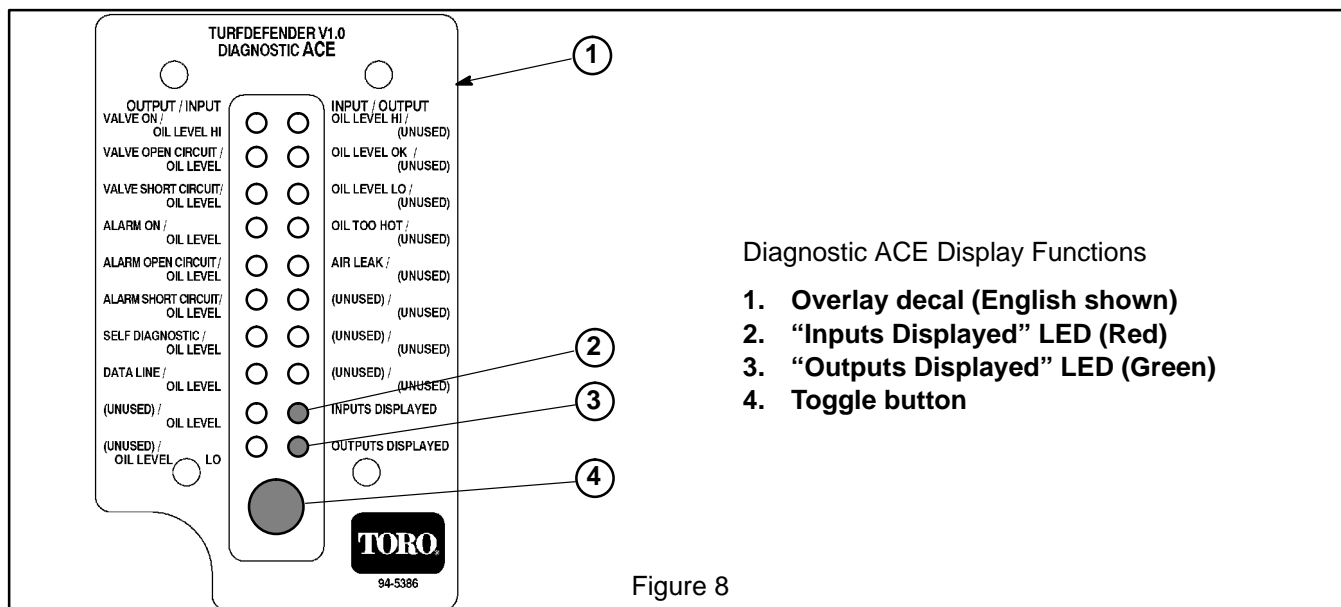

Figure 8
3. Connect the Diagnostic ACE display connector to the correct harness loopback connector. Install TurfDefender overlay decal (supplied with leak detector kit) onto Diagnostic ACE (Fig. 8).
5. The red "Inputs displayed" LED (Light Emitting Diode), on lower right column of the Diagnostic ACE, should be illuminated. If green "Outputs displayed" LED is illuminated, press and release the toggle button, on Diagnostic ACE, to change LED to "Inputs displayed". Do not hold button down (Fig. 8).